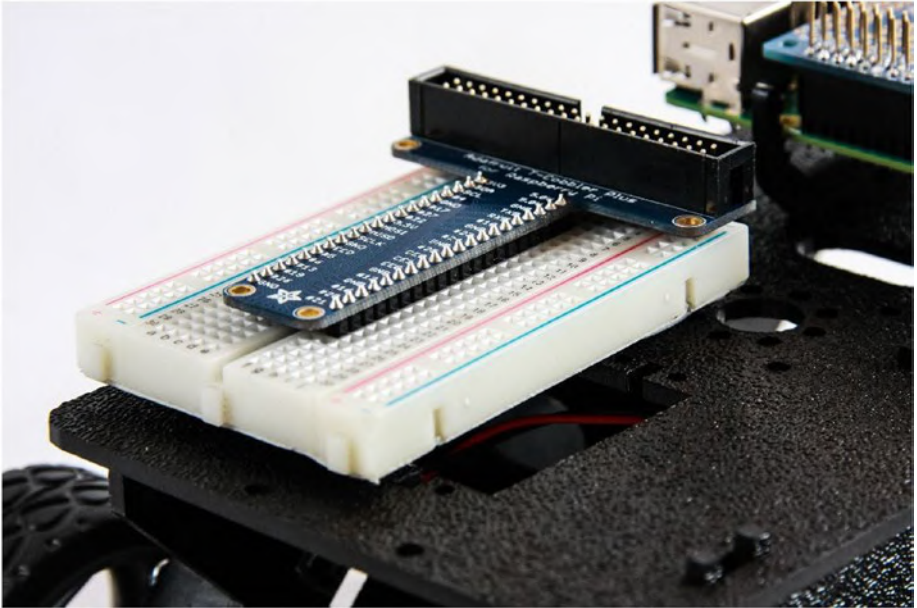

Figure 7-13. Mounted breadboard. Note that the T-cobbler has been moved forward to allow room for the power pack.
3. Remove the protective paper from the bottom of the breadboard and press the breadboard firmly into the T-shaped tape on the top plate (see Figure 7-13).